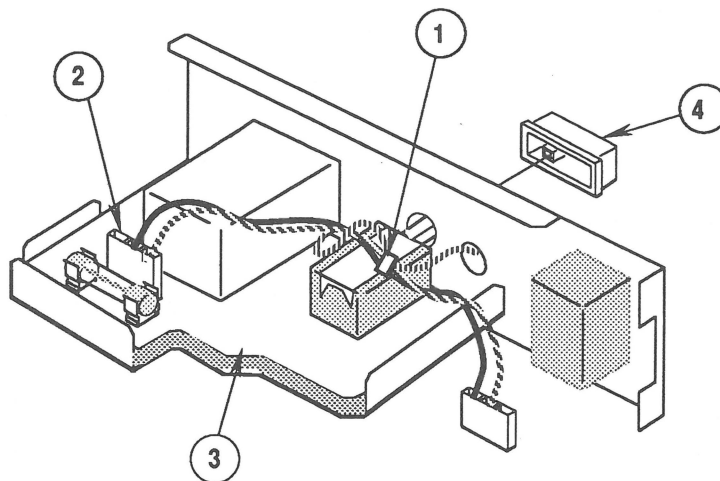

FIGURE 9
6. Cut the tie-wrap (Figure 9, #1), and remove the **P** connector (Figure 9, #2) from the AC input board (Figure 9, #3). Keep the **P** connector.
7. Pull the plastic knob (Figure 9, #4) off the On/Off switch. Keep the knob.
1. Reconnect one end of the **P** connector (Figure 9, #2) to the AC input board (Figure 9, #3), and install a new tie-wrap (Figure 9, #1) around the AC input assembly wires.